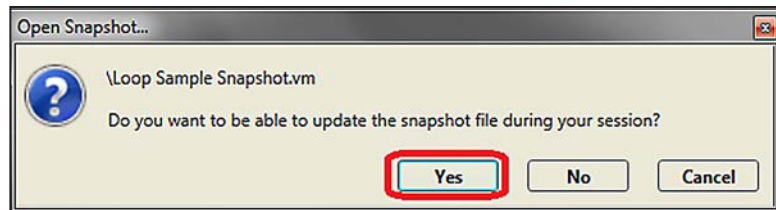

Figure 73. The Open Snapshot dialog box.
STEP 2. Open the Loop Sample Snapshot.vm file. In the Open Snapshot dialog box, click on the **Yes** button to allow file modification. See Figure 73.